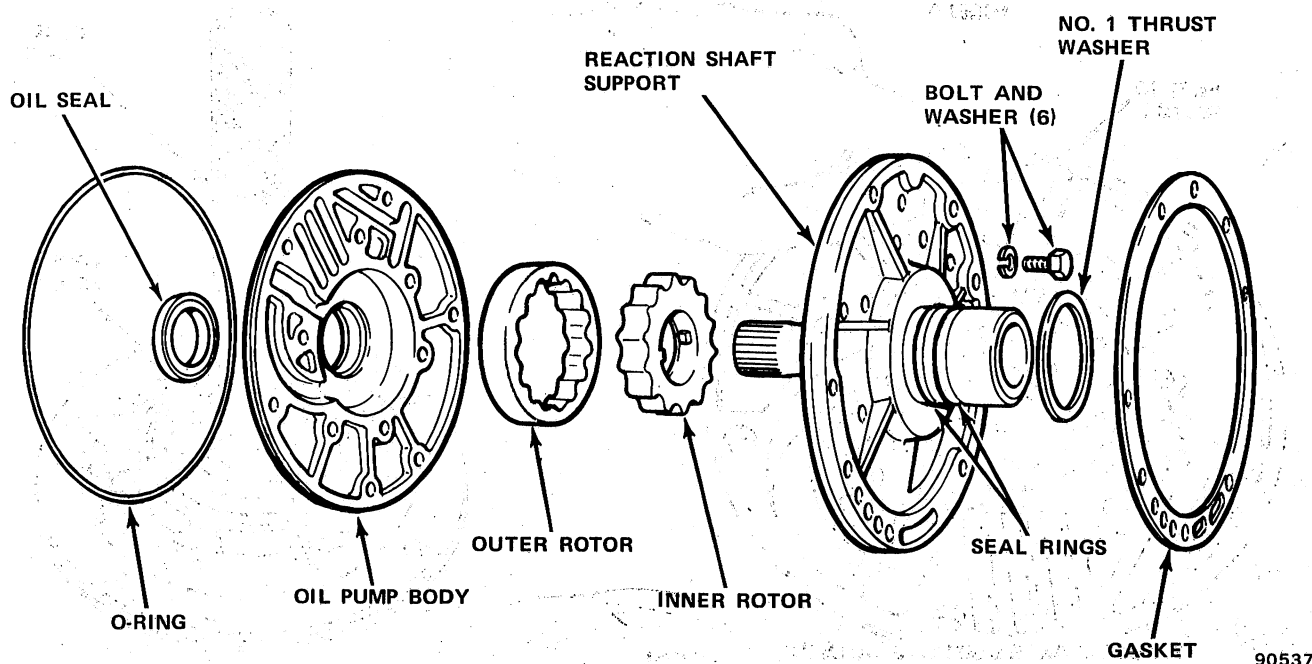

Fig. 2C-50 Oil Pump Assembly—Model 999
0.001 to 0.003 inch (0.02 to 0.07 mm) (fig. 2C-51).